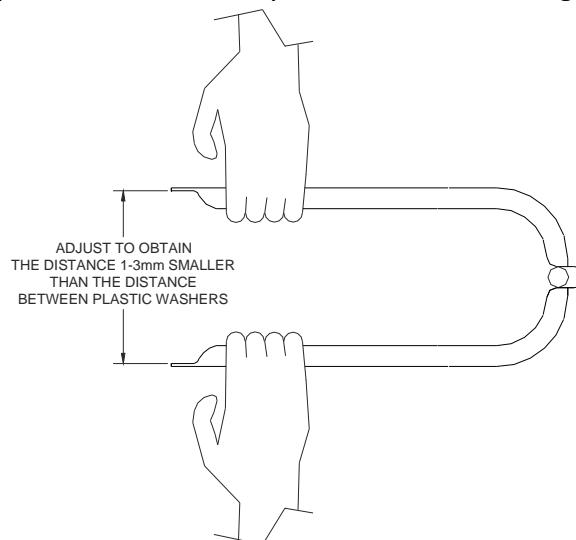

Figure. 3 Manual adjustment of the fork to obtain a desired distance
- E) Bicycles have various distances between the outside surfaces of their rear fork at the axle. The Maya Cycle fork fits best on bicycles where the distance between the flat surfaces is between 130mm and 165mm. The fork (Fig. 3) can be manually adjusted to reach a desired distance to fit between the axle bracket and the plastic washer. Ideally, the fork should sit tight against the plastic washers.